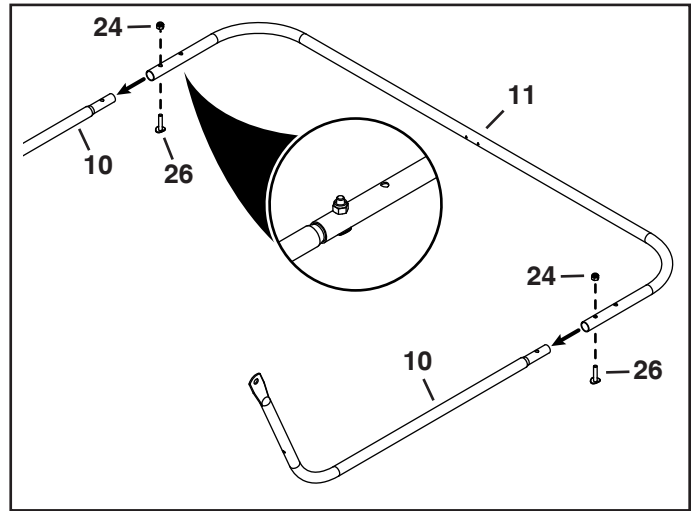

FIGURE 8
10. Slide a rear hopper tube (11) onto ends of lower hopper tubes (10) making sure the holes in the rear hopper tube are facing up as shown in figure 8.
11. Secure the rear hopper tube (11) to the lower hopper tubes (10) with two 1/4" x 1" curved head bolts (26) and 1/4" nylock nuts (24). See figure 8.